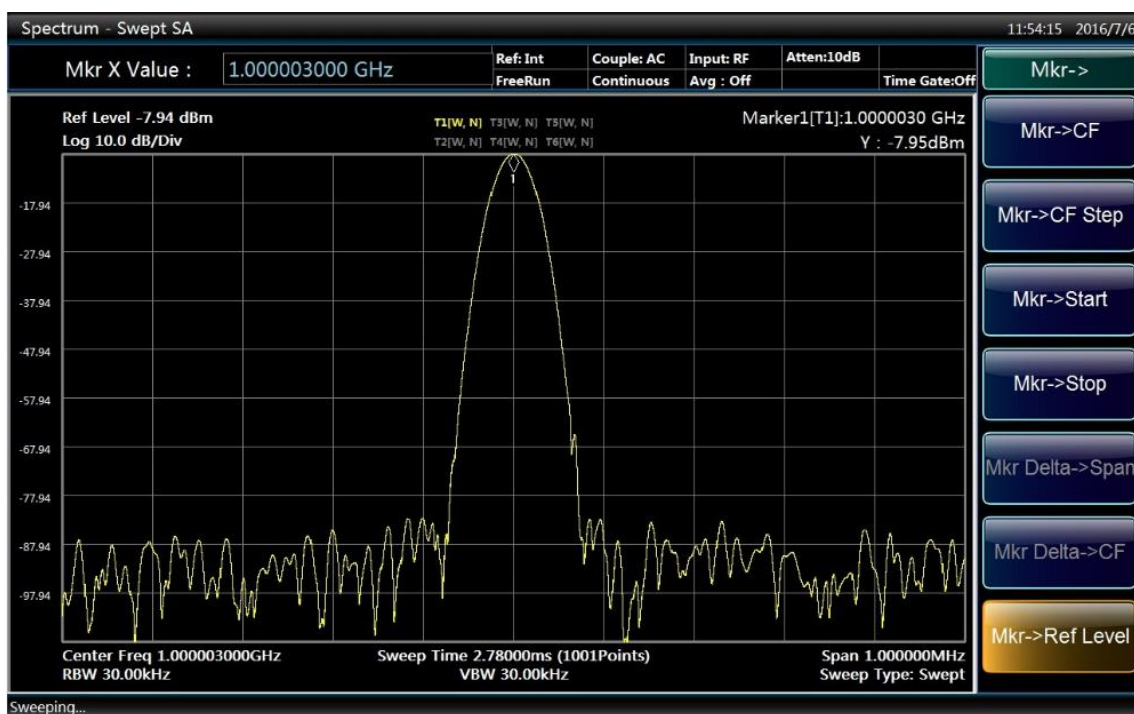

Fig. 4.21 Display interface of input signal with 1 MHz frequency span
- Press [Marker →] and [Marker →Reference Level] to obtain an interface as shown in Fig. 4.21.